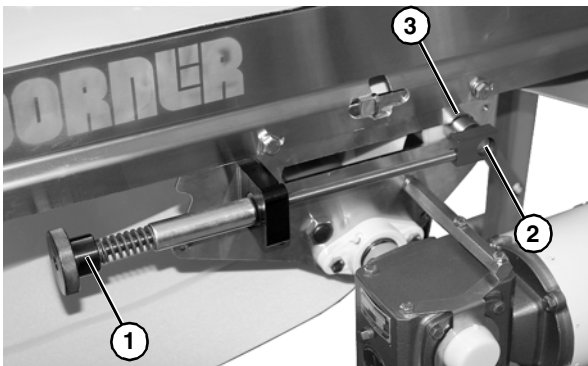

Figure 39
11. Loosen tension nut (**Figure 39, item 1**) on each side of center drive unit so that tensioner assembly shaft (**Figure 39, item 2**) aligns with hole (**Figure 39, item 3**).